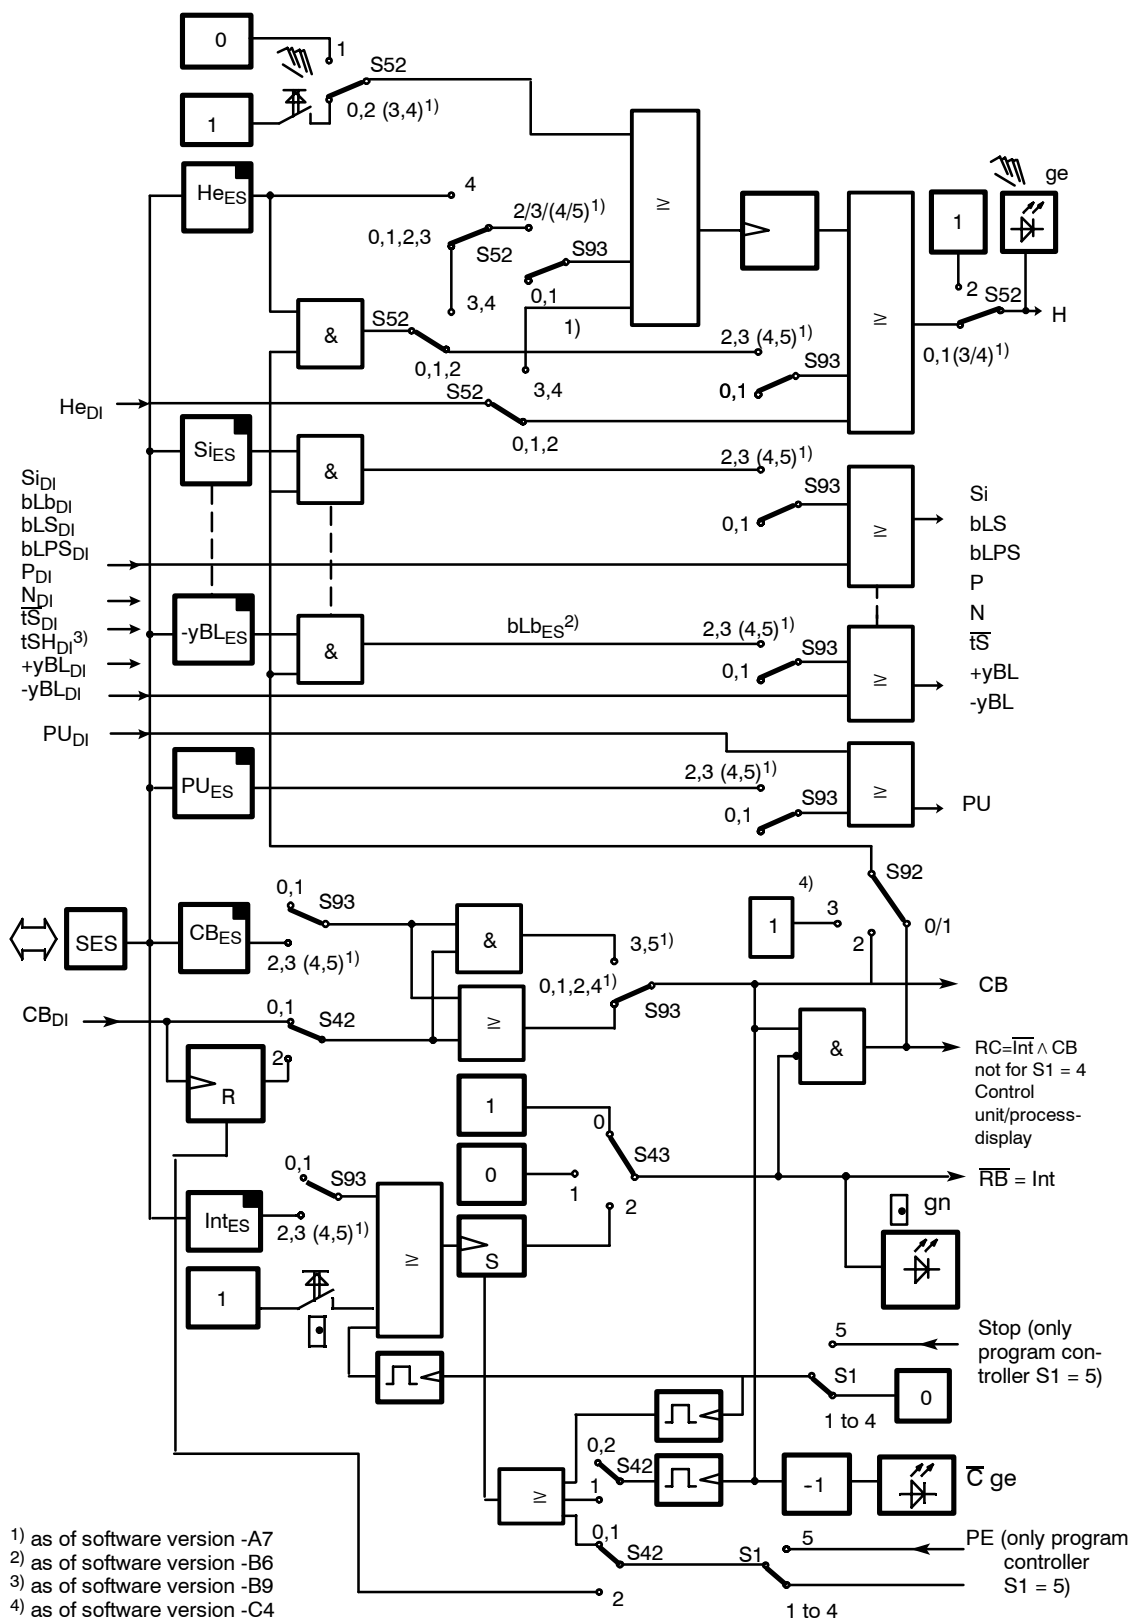

Figure 3-3 Linking the digital inputs DI with the control signals via the SES (S42, S43, S52, S93)
see figure 3-3, page 63
With S43 the internal/external key (13) can be deactivated and blocked in the settings internal or external (see figure 3-3, page 63). The factory setting is $S42 = 0$ (only internal).